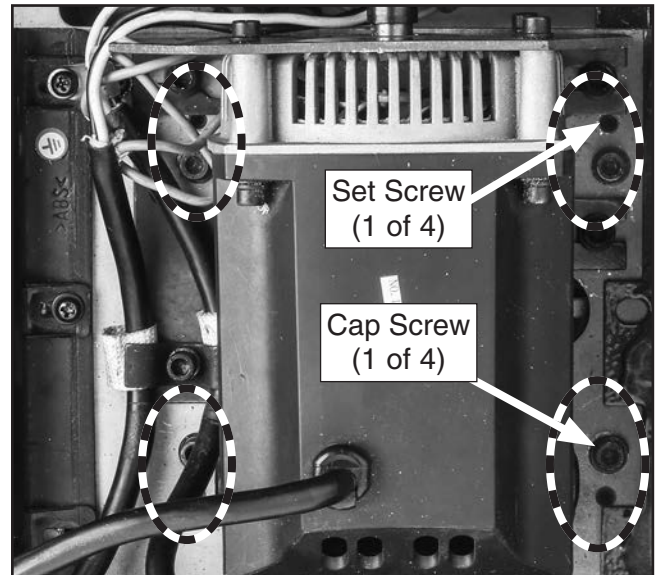

Figure 59. Infeed table adjustment set screw and cap screw locations.
6. Turn machine upside-down to access motor cover, and remove (4) Phillips head screws securing motor cover to jointer base. Lift cover off and set it aside.
7. Loosen (4) cap screws (see **Figure 59**) securing corners of infeed table. Do not remove.
8. Locate set screw (see **Figure 59**) beneath each corner of table that is not parallel (consult notes from **Step 5**). Rotate set screw clockwise to raise infeed table; rotate counterclockwise to lower table.